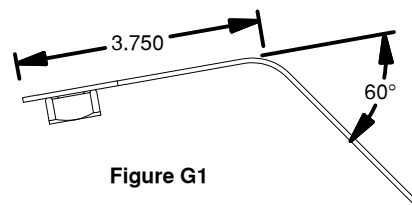

Figure G1
1. **Prepare nut guides.** The two outside rear bolt locations are not accessible under the bed due to the bed cross member. A 1/2" x 2" cap screw and nut guide will need to be utilized. Prepare the nut guides by putting a 60° bend in the handle about 3-3/4" from the top, see Figure G1.